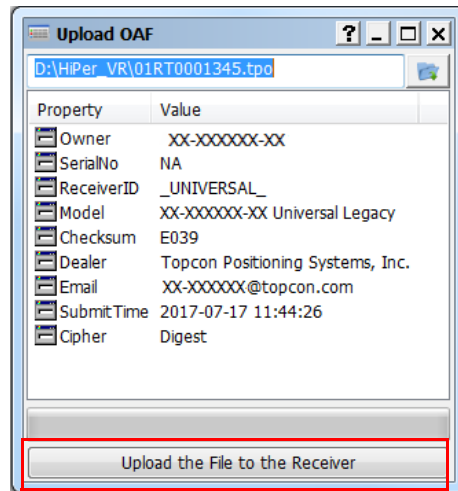

Figure 5-8: Upload OAF to the Receiver
TRU initially checks to see if the selected file is compatible with the currently connected receiver. If you chose a file that is not intended for this receiver, the **Upload OAF** window will display an error icon next to the **Receiver ID** (not shown) and disables the **Upload the File to the Receiver** button (Figure 5-8).
- Click **Upload the File to the Receiver** to start loading the file (Figure 5-8).